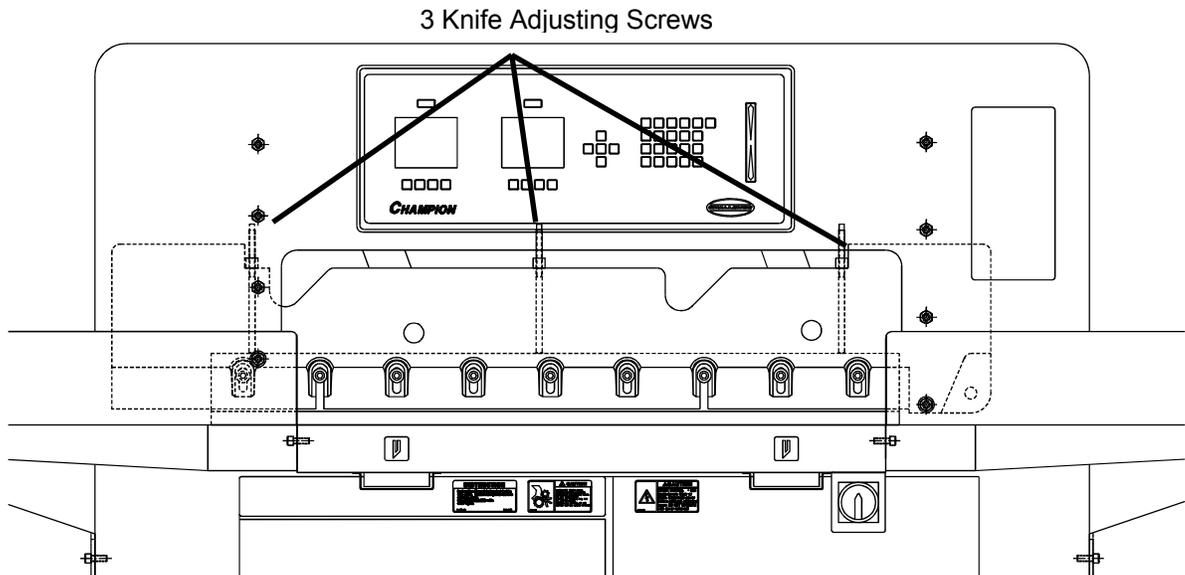

Figure 16
4. Back off the three (3) knife adjusting screws on the top of the knife bar, (Figure 16 on page 37), as far as they will go (counterclockwise). A new knife will cut deeper than a knife that has been ground several times. If the adjusting screws are not backed off, damage will result to the new knife, paper deflector and/or the cutting stick.